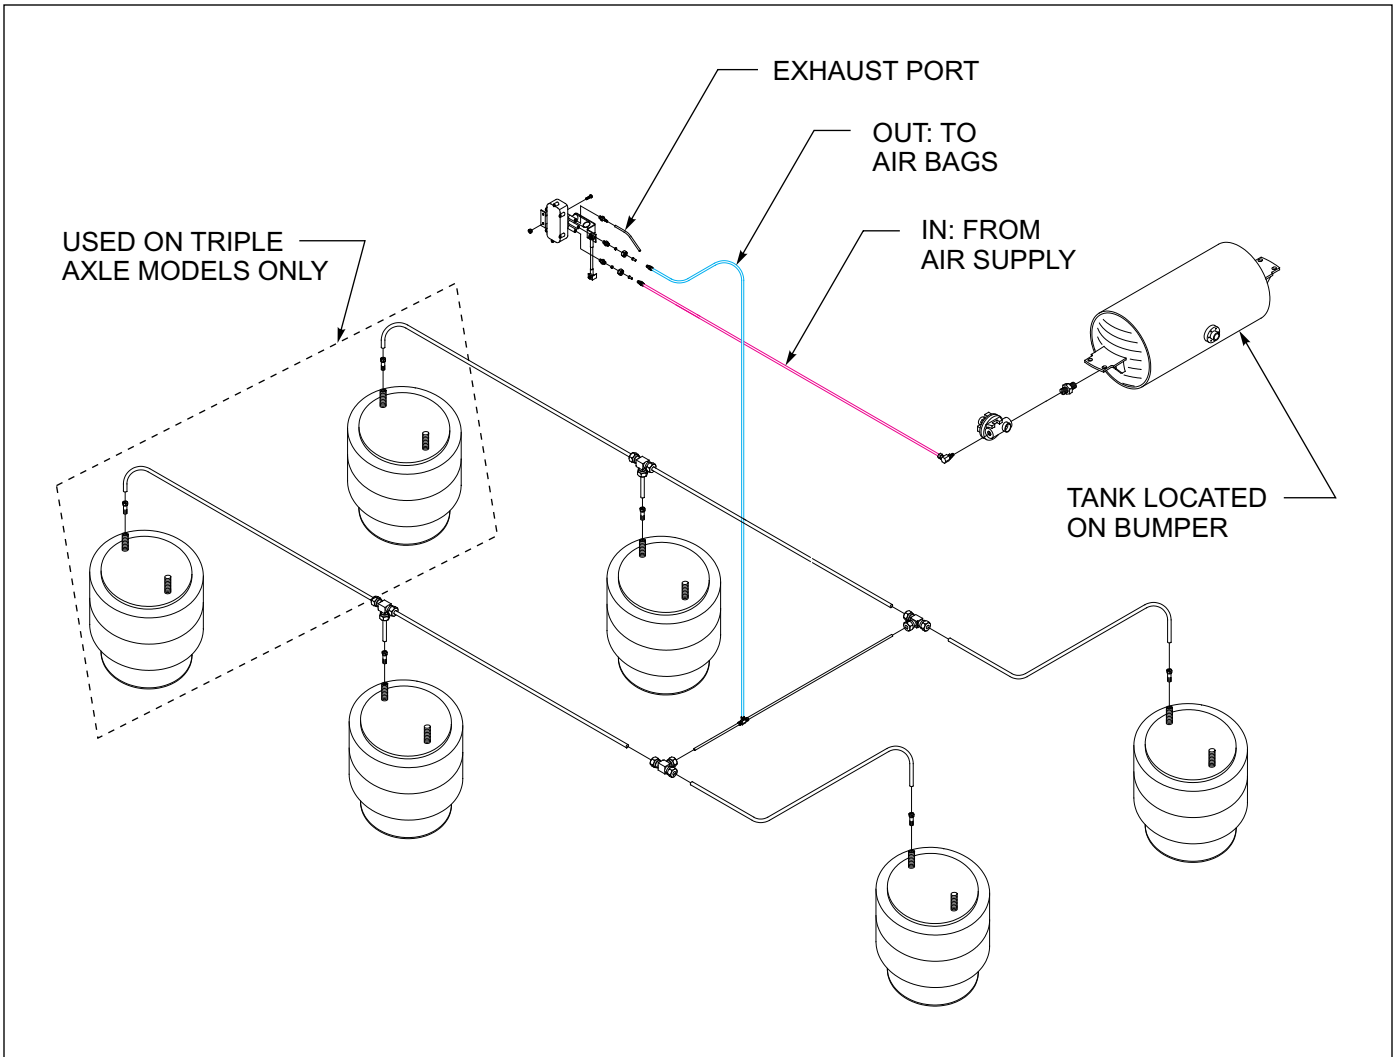

Figure 4-7: Tandem/Triple Air Ride Suspension System
1. See **Figure 4-7** for Axle Air Ride Suspension drawings.